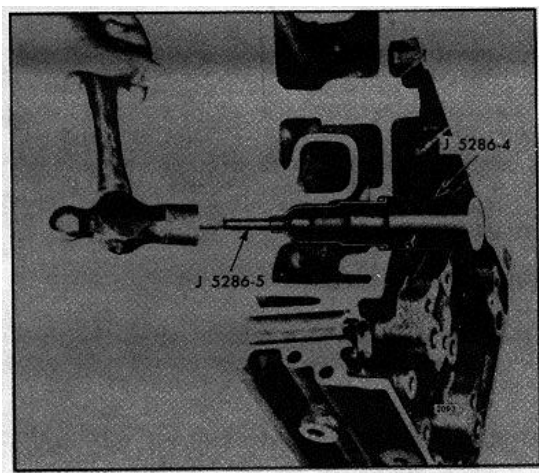

Fig. 1. Removing Injector Tube
The bore in the cylinder head for the fuel injector is directly through the cylinder head water jacket as shown in Fig. 1. To prevent coolant from contacting the injector and still maintain maximum cooling of the injector, a tube is pressed into the injector bore. This tube is sealed at the top with a neoprene ring and upset into a flare on the lower side of the cylinder head to create water-tight and gas-tight joints at the top and bottom.
2. Place the injector tube installer J 5286-4 in the injector tube. Insert the pilot J 5286-5 through the small opening of the injector tube and thread the pilot into the tapped hole in the end of the installer (Fig. 1).